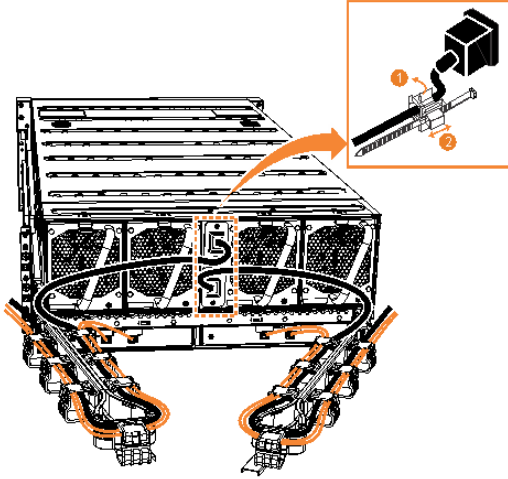

Figure 58. Secure power cables
2. Secure the power cables in the cable retainer at each power connector on the rear of the enclosure, as shown in Figure 58 on page 89. Also, ensure that each cable is installed along one of the cable management arms. The cable management arms also support the SAS cables.